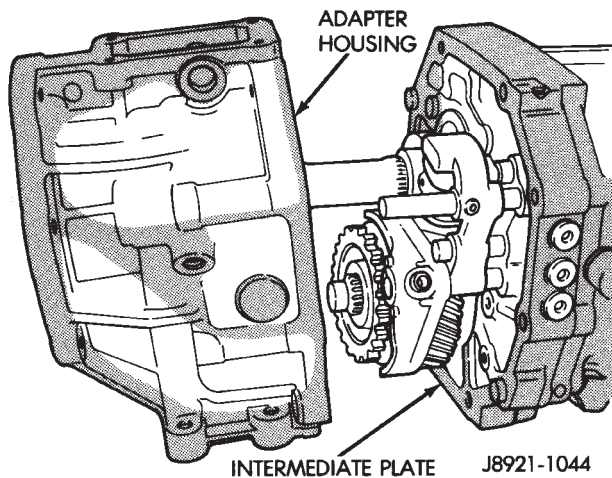

Fig. 119 Adapter/Extension Housing Installation
(16) Align and install adapter or extension housing on intermediate plate (Fig. 119). Be sure housing is seated on intermediate plate dowel pins.
(17) Coat threads of housing attaching bolts with Mopar silicone sealer. Then install and tighten bolts to 37 N•m (27 ft. lbs.) torque.